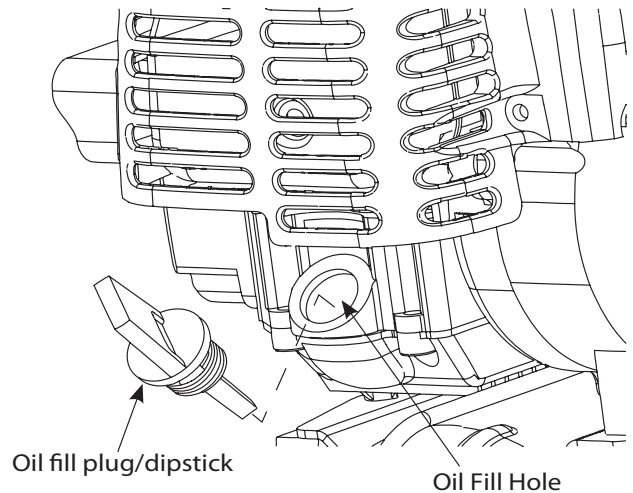

Fig. 7
3. Remove the oil plug / dipstick from the crankcase (Fig.7).
4. Pour the entire bottle of oil into the oil fill hole (Fig.7).